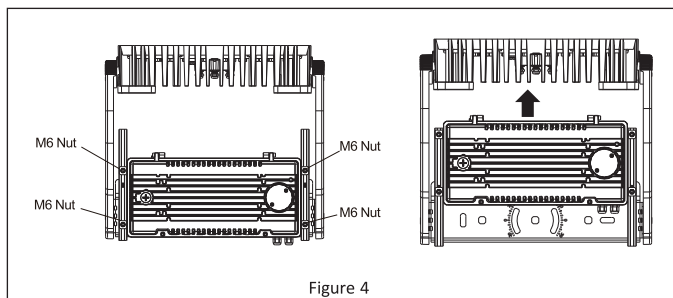

Figure 4
5. Loosen the 4 M6 nuts around the driver and slide the driver forward to access the mounting holes. **See Figures 4.**